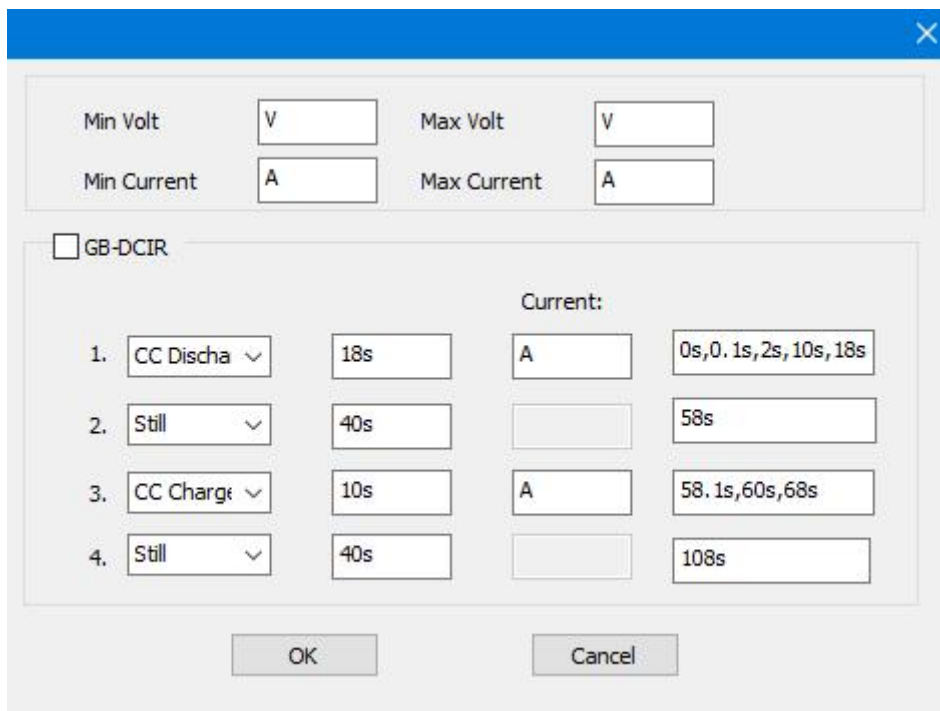

Figure 3-7 DCIR setting window
11. **DICR test** : DC internal resistance test, divided into conventional version and national standard version (as shown in Figure 3-7).
As shown in Figure 3-7, after selecting "GB-DCIR", the system will automatically load the national standard version of the working step template, and the user only needs to automatically set the highest voltage, current and charge and discharge current.